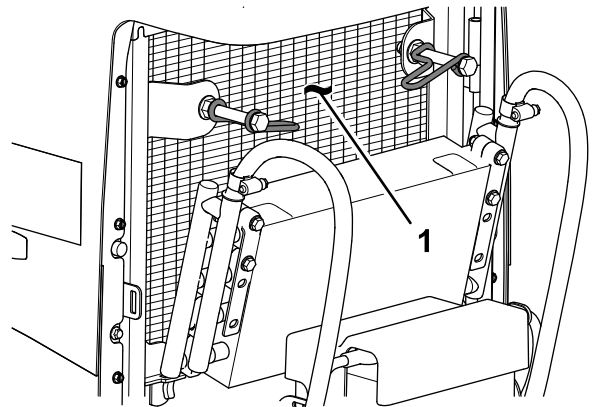

Figure 111
8. Thoroughly clean both sides of the oil cooler and the radiator (Figure 111) with compressed air.